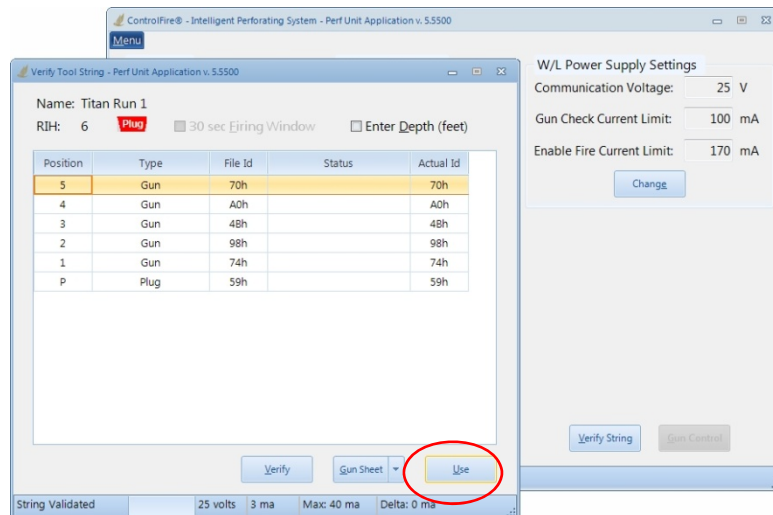

Figure 30
5. Select the **Use** button on the Verify Tool String screen. This action activates the **Gun Control** button on the Set Up screen. See Figure 30.